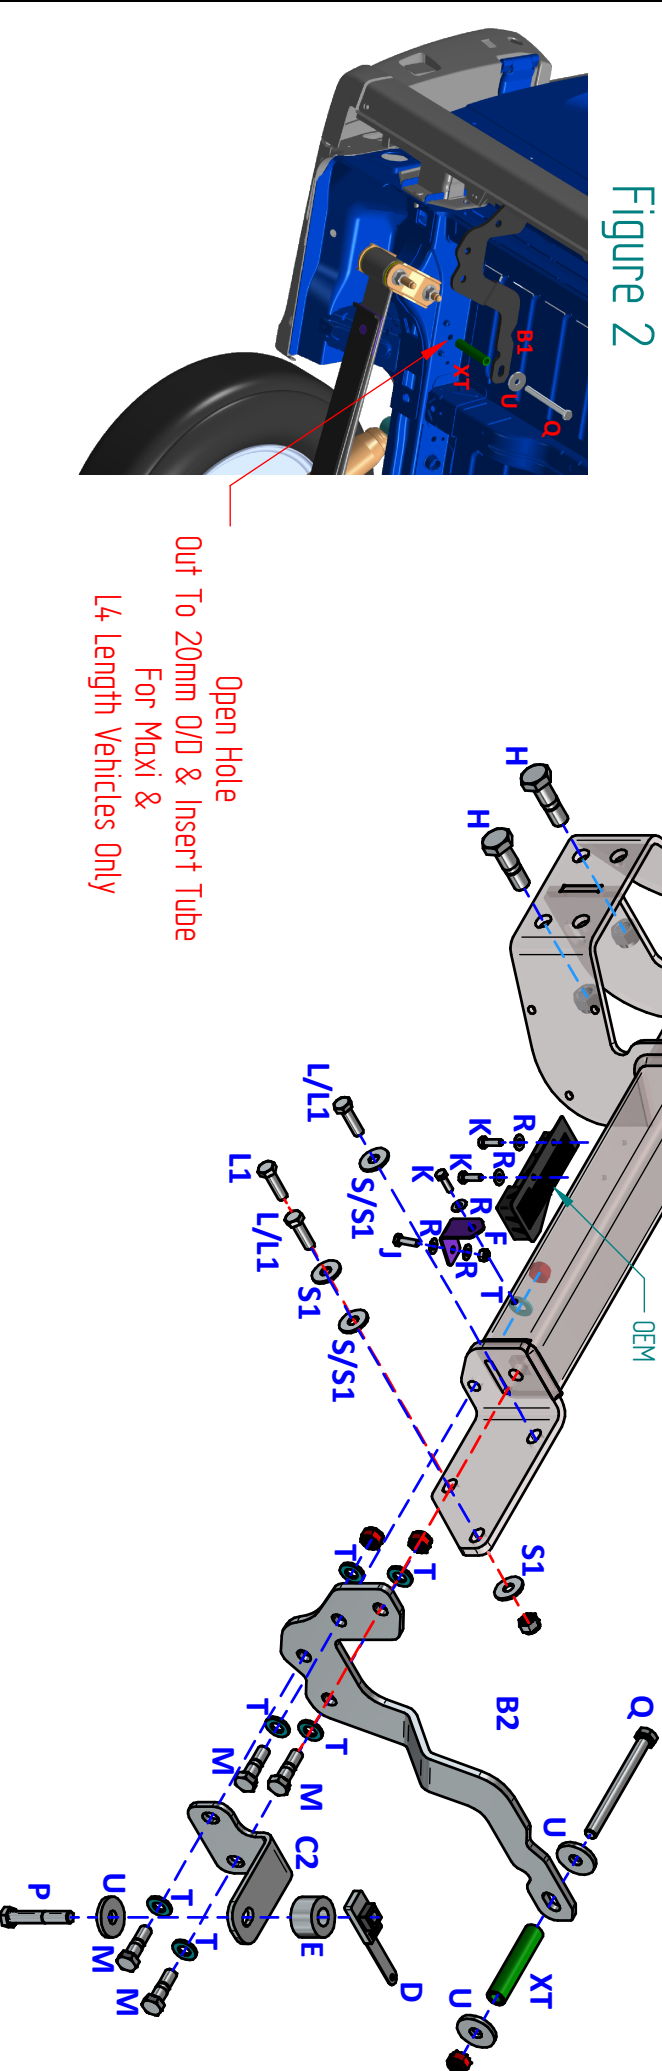

Figure 2
1. Using **Figure 2** as a guide to prepare for the installation, open the hole out to 20mm diameter on the internal face only.
Note: For vehicles that don't have the mounting point pre-drilled in the chassis rail shown in **Figure 2**, follow steps 1 to 3 of the Towbar Installation and correctly position items **B1** and **B2**. Mark the position of the mounting points where items **Q** will be fixed then remove items **B1** and **B2**. Drill out both faces of each chassis rail to 14mm and open the internal chassis face to 20mm. Once completed follow the Towbar Installation steps as normal.
Note: See **Figure 2** when installing to **Maxi/L4 Vehicles**. Ensure item **XT** is inserted into each chassis rail at this point.